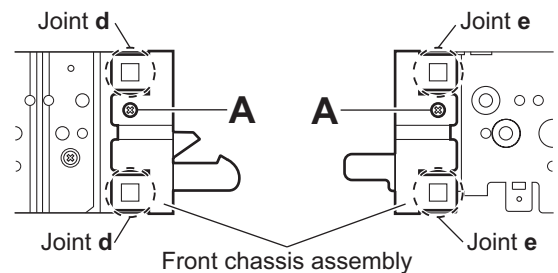

Fig.3
#### 3.1.3 Removing the front chassis assembly (See Fig.3 and 4)
- (1) Remove the two screws **A** on the both sides of the main body. (See fig.3.)
- (3) Release the two joints **d** and two joints **e** on the both sides of the main body, then remove the front chassis assembly toward the front. (See fig.3.)
#### 3.2.2 Removing the load arm (See Fig.3)